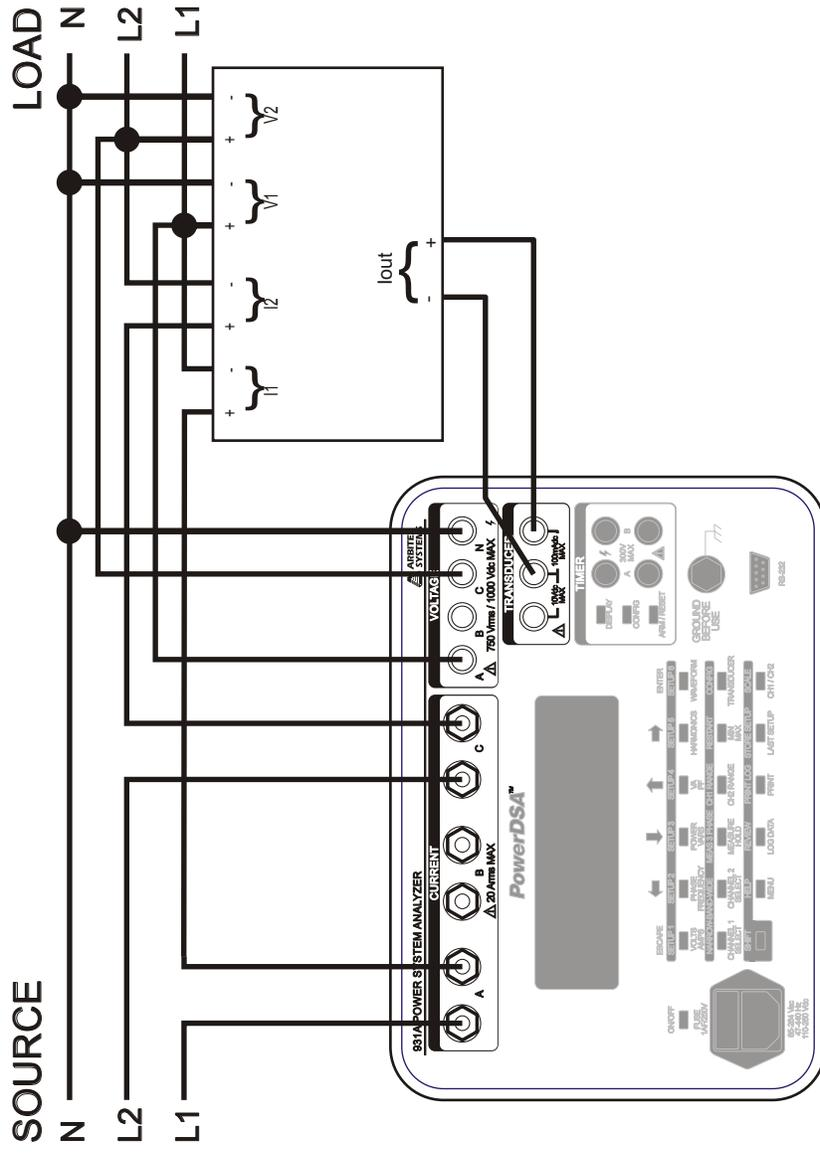

Figure 3.15: 1-Phase, 3-Wire, 2-Element Transducer Test
- **“1Ph 3Wire 2E”** sets the Model 931A to measure values in a circuit having two hot wires and a neutral wire. Commonly referred to as Split-Phase, this type of circuit is generally used to supply residential service. This particular configuration is intended for testing 2-element transducers. See Figure 3.15.